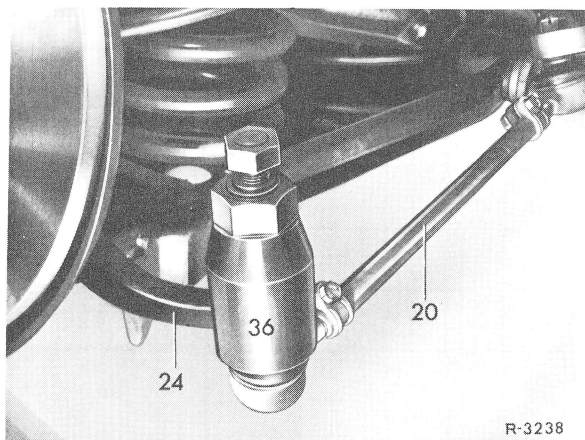

Fig. 3
2 Remove track rod (20) from steering arms by means of puller (36) (Fig. 3).